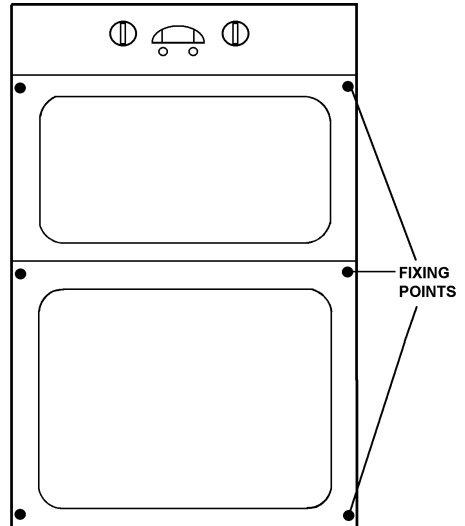

Fig.2
- 10 Centralise and fix the appliance using the six wood screws provided, in the position indicated in Fig.2.
- 9 Centralise and fix the appliance to the cabinet using six wood screws in the position indicated in Fig.2.